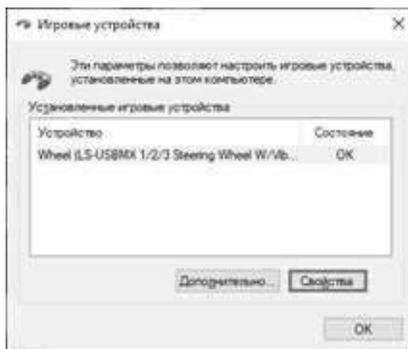

Fig. 8
- Go to «control panel» menu, then click on «devices and printers» icon, in the window that opens, select «LS-USBMX 1/2/3 Steering Wheel W/Vibration», shortcut, right-click on «Game controllers settings» (see Fig. 8).